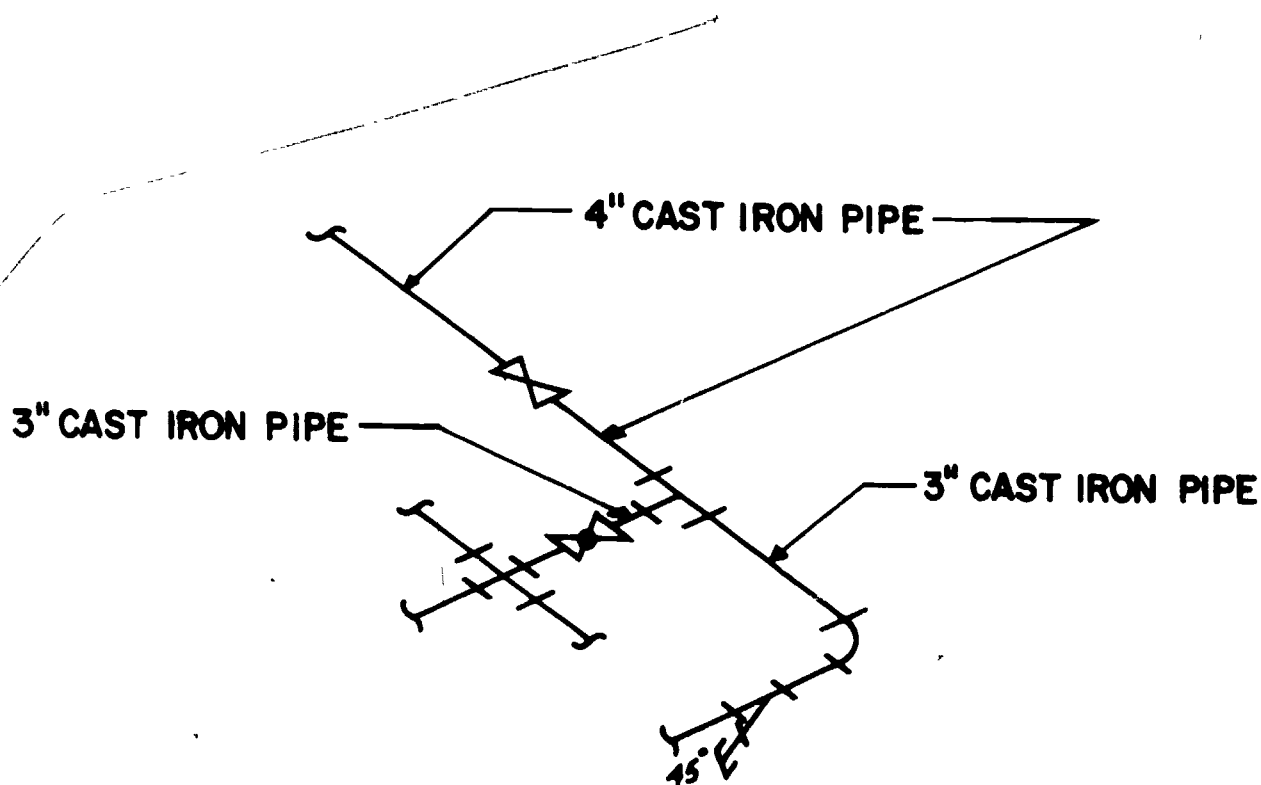

Figure 10.1
1. Make a list of the pipe and fittings to be ordered for the system shown in figure 10.1. Arrange the list in tabular form under headings of size, pipe length, valves, fittings, etc. Use a scale of 1"=20' for the length of pipe taken from the isometric. Use flanged cast-iron pipe. Pressure in the pipe will not exceed 200 lbs. psi.